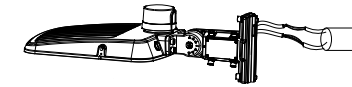

Figure 25
Step 2: Loosen the four bolts on A&D bracket, connect the wires correctly, and pull the wires into the poles.(Figure 25)
Step 3: Placethe bracket into the pole and lock the four bolts. (Figure 25)
Notice:Adjustable angle is 0-90°(Figure 25)